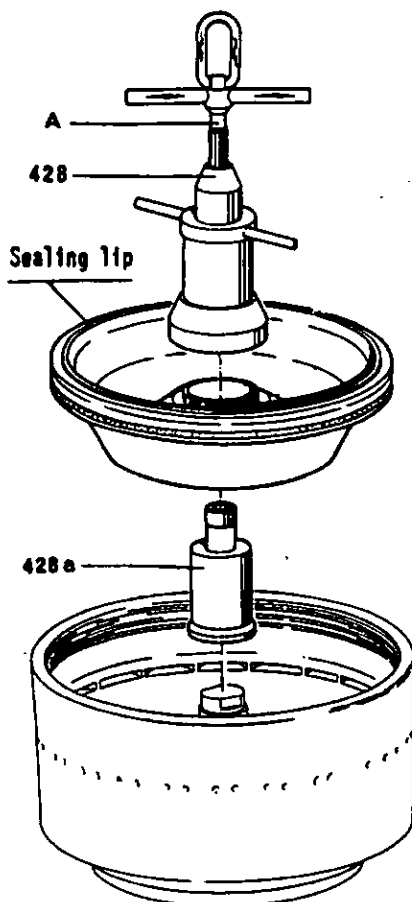

Fig. 4/3a
- 7) Fig. 4/3a: Lightly grease guide surfaces of sliding piston and of bowl bottom with the supplied lubricating paste. Place pressure piece 428a onto hub of bowl bottom. Make sure that arresting pins of bowl bottom fit into holes of pressure piece. Then install the sliding piston with the aid of jack 428. The "O" marks must be aligned. By turning jackscrew "A" counter-clockwise, lower the sliding piston slowly until the arresting pins of the bowl bottom catch into the holes of the sliding piston.